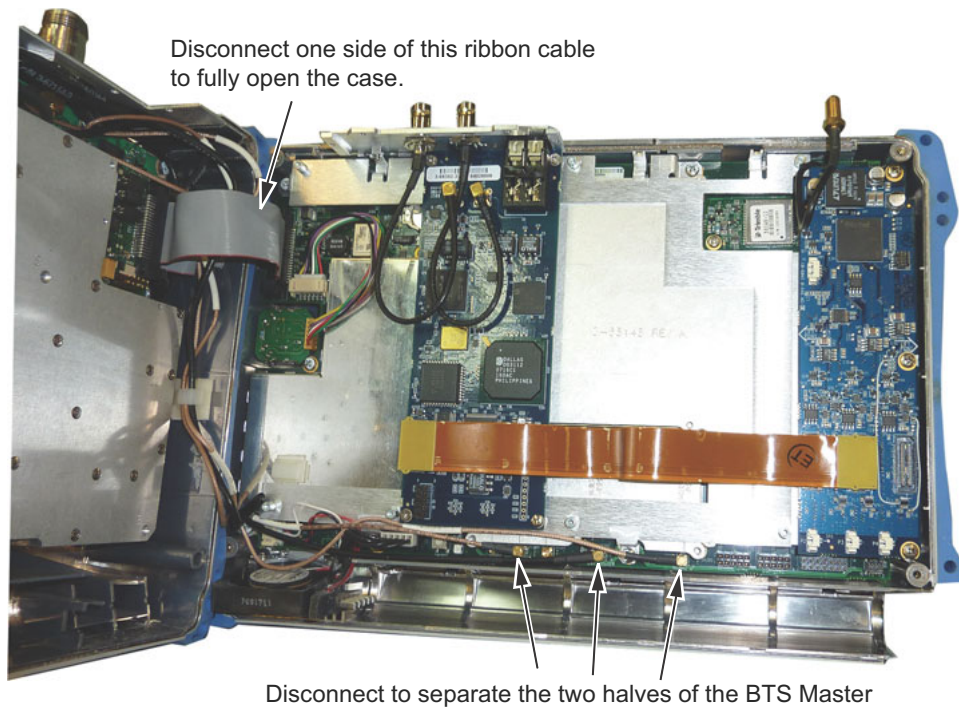
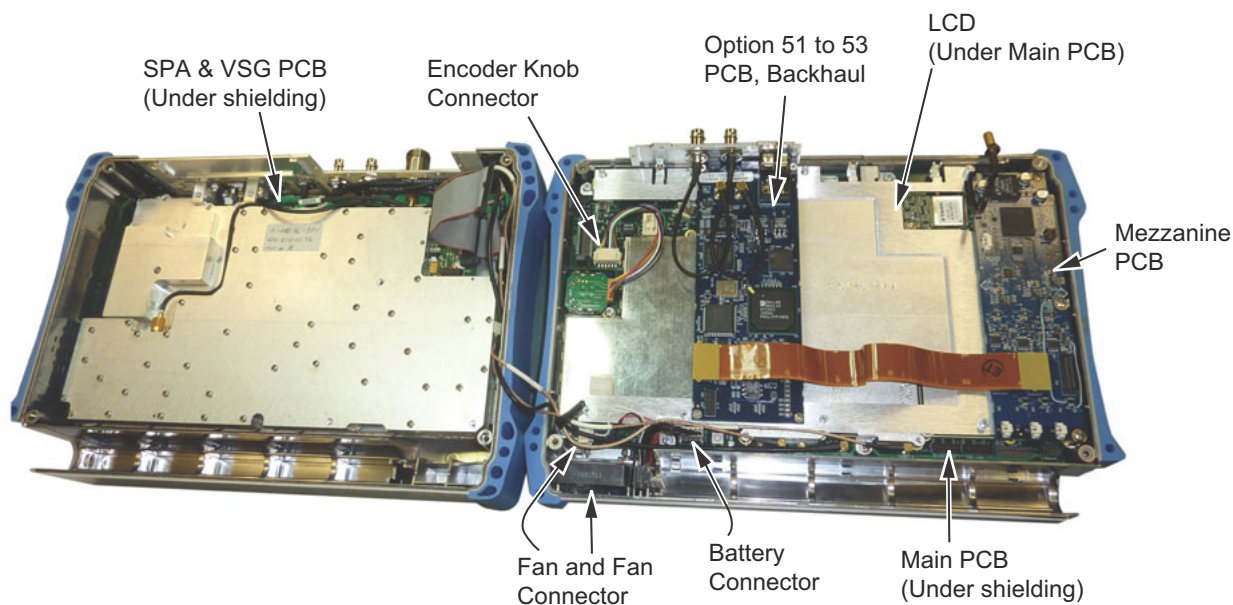

Figure 7-3. Disconnect the Ribbon Cable
Figure 7-4. BTS Master Opened 180 Degrees
Do not force or pull the two halves of the case apart completely, there are delicate cables attached between the two halves that must be disconnected first. Refer to Figure 7-3 and Figure 7-4. Note the position and routing of the cables, they should be similarly routed when the unit is reassembled.
11. The two halves of the instrument can now be safely separated (Figure 7-4). Refer to the following sections to remove and replace specific components of the instrument.
This procedure provides instructions for replacing the Main PCB assembly. The Main PCB assembly is located in the front panel half of the instrument (Figure 7-4).